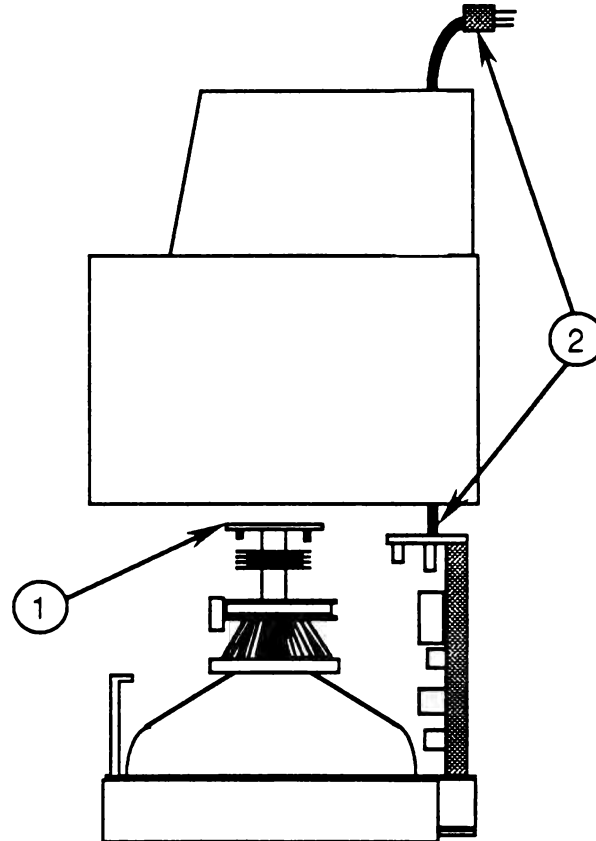

FIGURE 10
5. While pushing down on the rear panel with one hand, carefully pull the rear cover up until it clears the CRT board (Figure 10, #1).
6. Pull the AC power cord (Figure 10, #2) through the opening in the rear cover. Set the rear cover aside.
2. Guide the AC power cord (Figure 10, #2) through the opening in the cover as you lower the cover onto the monitor.